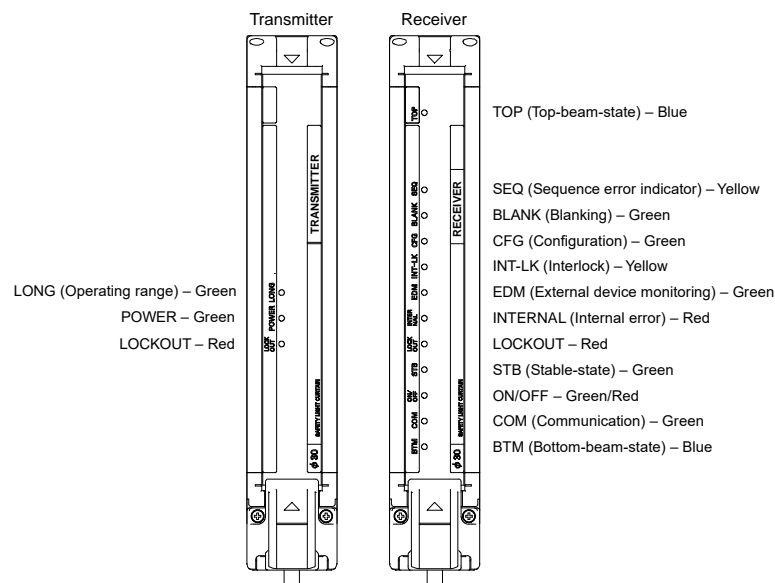

Figure 3-1. Shadow 9 LED Indicators
Shadow 9 LED indicators on transmitter, receiver, and the optional Shadow 9 control box provide information about light curtain operation. See Figure 3-1, page 100, Table 3-1, page 100 and Table 3-2, page 101.
- LEDs on the transmitter and receiver indicate operating state and settings (see Figure 3-1, page 100; Table 3-1, page 100, and Table 3-2, page 101).